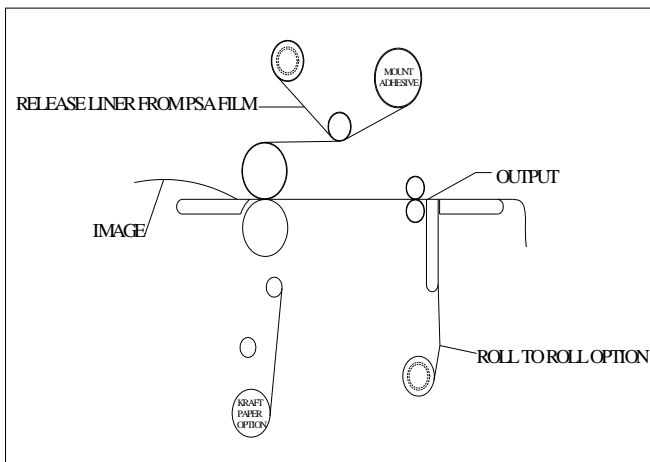

FIGURE 34
Note: This application can also be performed from the rear operating position. Reference Fig. 34 for Illustration.
1. Load the laminator as illustrated in Fig. 34.